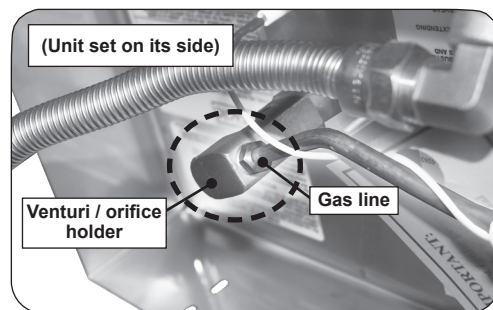

Fig. 29-2 Venturi / orifice holder
5. Detach the gas line from the venturi/orifice holder to fully remove (see Fig. 29-2).